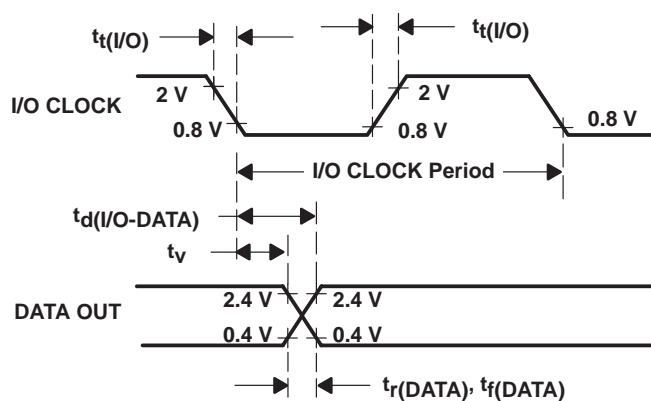

Figure 6. I/O CLOCK and DATA OUT Voltage Waveforms
10. I/O CLOCK period =  $1/(\text{I/O CLOCK frequency})$  (see Figure 6)